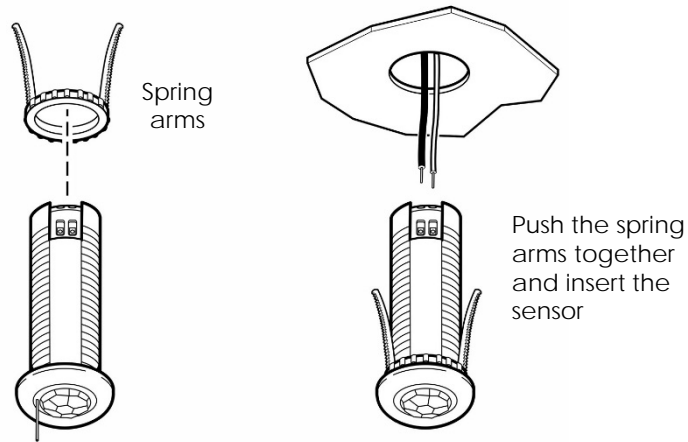
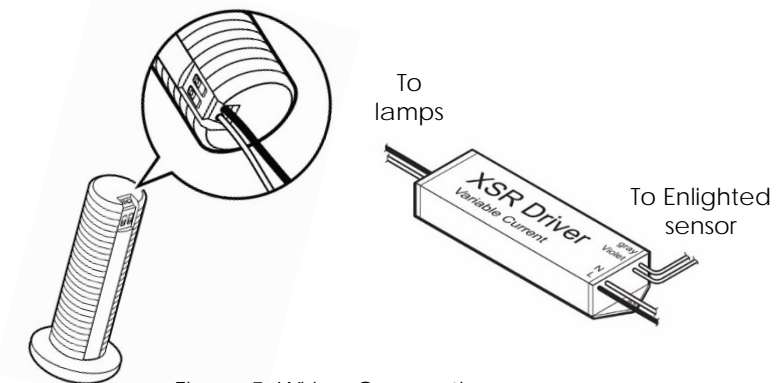

Figure 2: Tile Mount Sensor
Figure 5: Wiring Connection
5.	Insert one end of the pair of wires into the LED driver's "SR connections" wire holes, (see Figure 5), and pull the other end through the hole in the tile. See Figure 2.
6.	Insert the free end of the pair of wires into the sensor's wire hole. See Figure 2.
7.	Push the spring arms together and insert the sensor through the hole in the tile. See Figure 2.